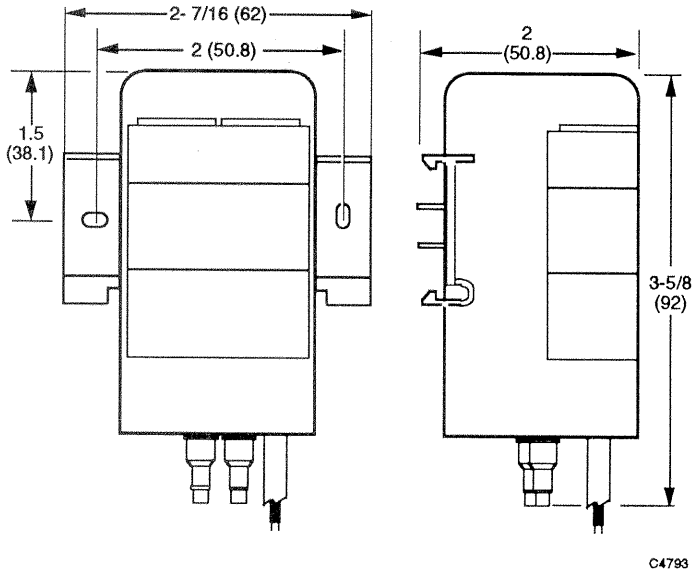

Fig. 1. RP7517A or B Electronic-Pneumatic Transducer with Cover — Approximate Dimensions in Inches (Millimeters).
1. Select the mounting surface according to the dimensions in Figures 1 and 2.
1. Select the mounting surface according to the dimensions in Figure 1.